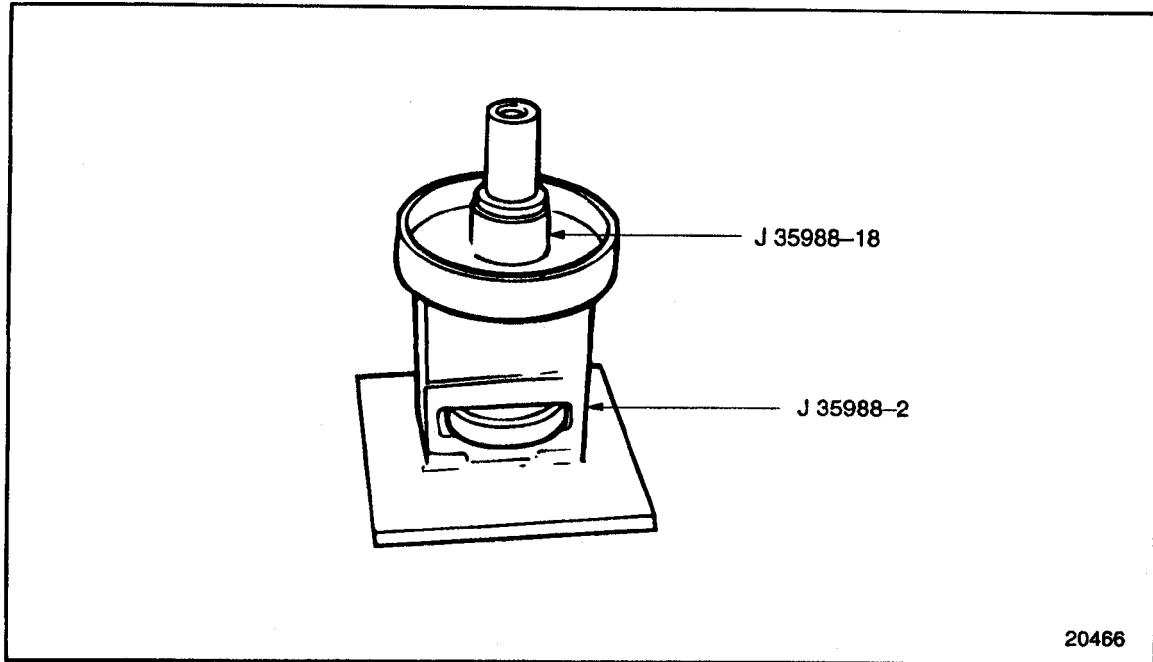

Figure 4-16 Bearing Installation Set-up (GCM)
3. Install J 35988-18 into the center of J 35988-2, parts of tool set J 35988-B. See Figure 4-16.